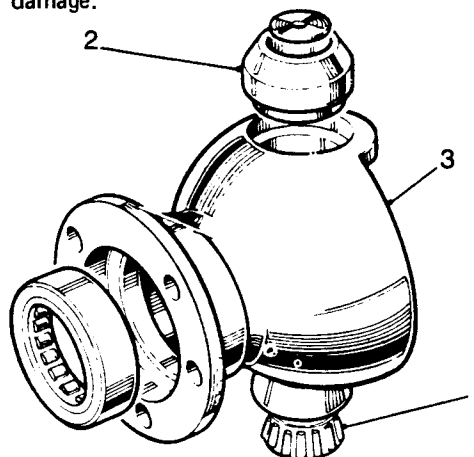

Fig J1.51
- (2) Refer to Fig J1.51. The taper roller bearing (1) must be a light push fit on the bottom swivel pin. If a new bearing is a loose fit, the swivel pin assembly must be renewed.
- (3) The Railko bush (2) must be a light push fit on the top swivel pin. If a new bush is a loose fit, the swivel pin assembly must be renewed. It is important to note that these bushes and thrust washers should not be washed in any type of cleaning fluid, otherwise there is a danger that the damping characteristics of the material will be adversely affected.
- (4) Examine the surface of the swivel pin bearing housing (3) for signs of corrosion or damage; replace the housing if necessary.